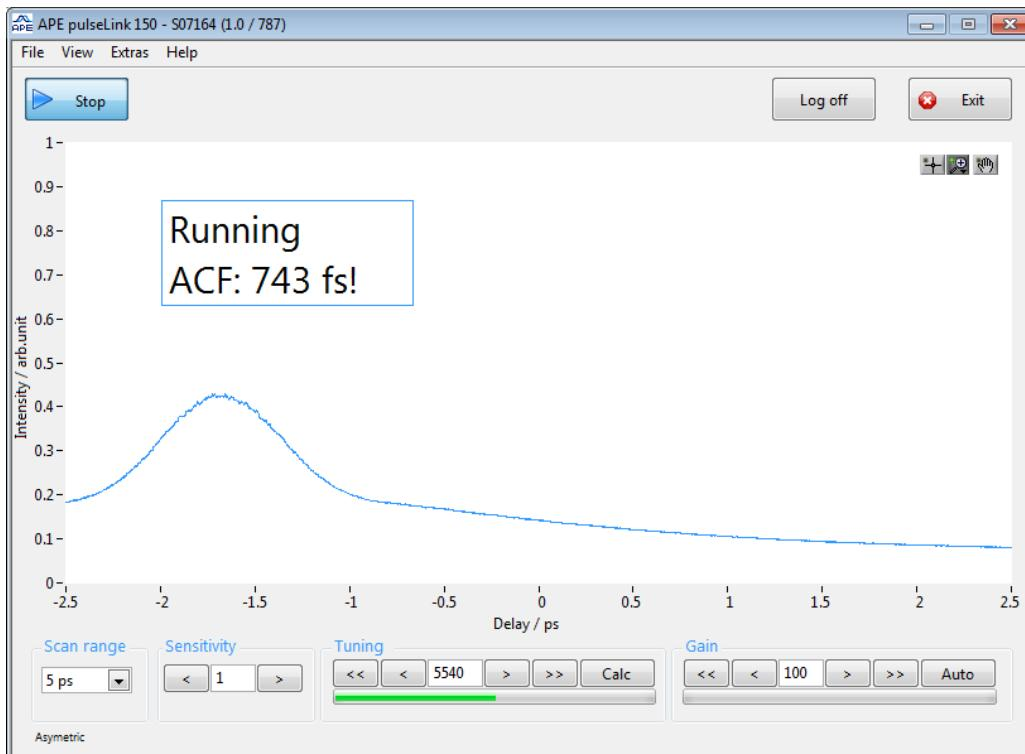

Figure 5.22.: Example of an asymmetric signal due to a large delay offset.
- Asymmetric signal: An SHG autocorrelation function is always symmetric by definition. If the measured autocorrelation trace deviates too much from symmetry the info line shows an "asymmetric" error message (see Figure 5.22).